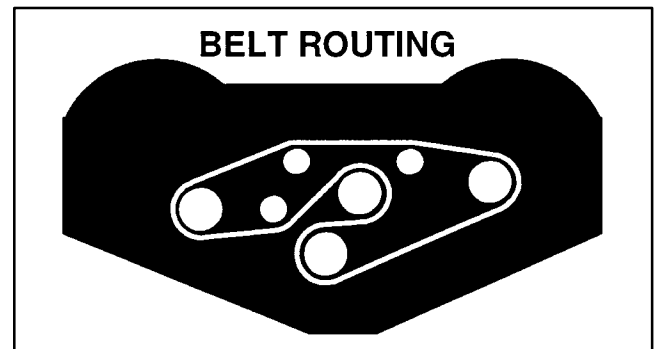

Figure 18
5. Route new belt around spindle pulleys and idler pulley assembly, as shown in figure 18.